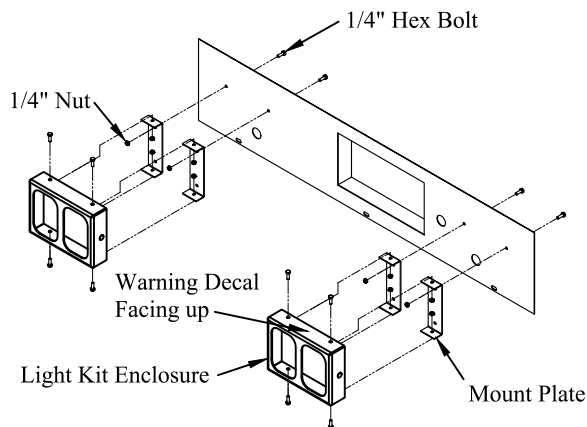

Figure 24: Light kit assembly location.
- 15. **Bolt** the light kit to the box cover using the supplied 1/4" bolts and nuts (Figure 24).
- 16. **Tighten** all light kit bolts to 9ft-lb (Figure 24).